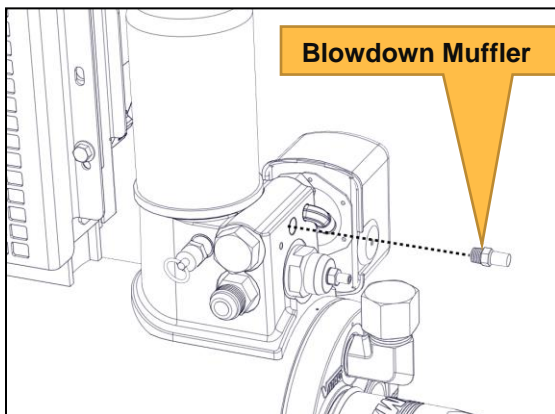
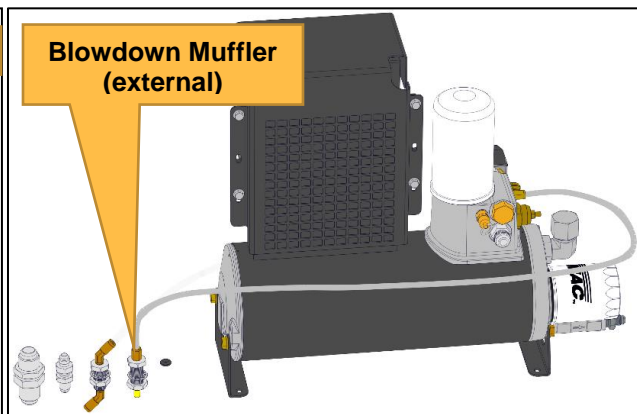

Figure 1
Figure 2
- When the compressor clutch disengages, there will be an audible hiss of air from the blowdown muffler located either on the WHASP tank (Figure 1), or plumbed to a location outside of the vehicle body (Figure 2). Allow this blowdown to completely subside before using air again. This will take between 15-20 seconds.